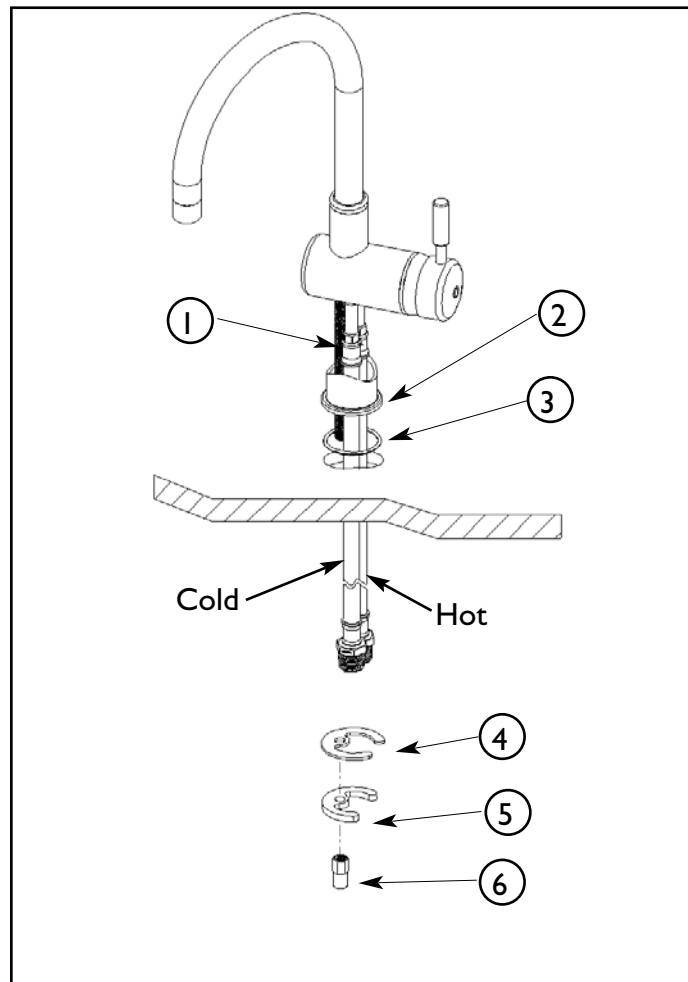

Figure 1
I. INSTALLING FAUCET ON SINK (See Fig 1)
- Slide the BASE (2) over STUD (1).
- Place O-RING (3) between BASE (2) and deck surface.
- Align STUD (1) to the left of sink. Place GASKET (4), CRESCENT (5), and NUT (6) onto STUD (1).
- Firmly tighten NUT (6) with wrench.